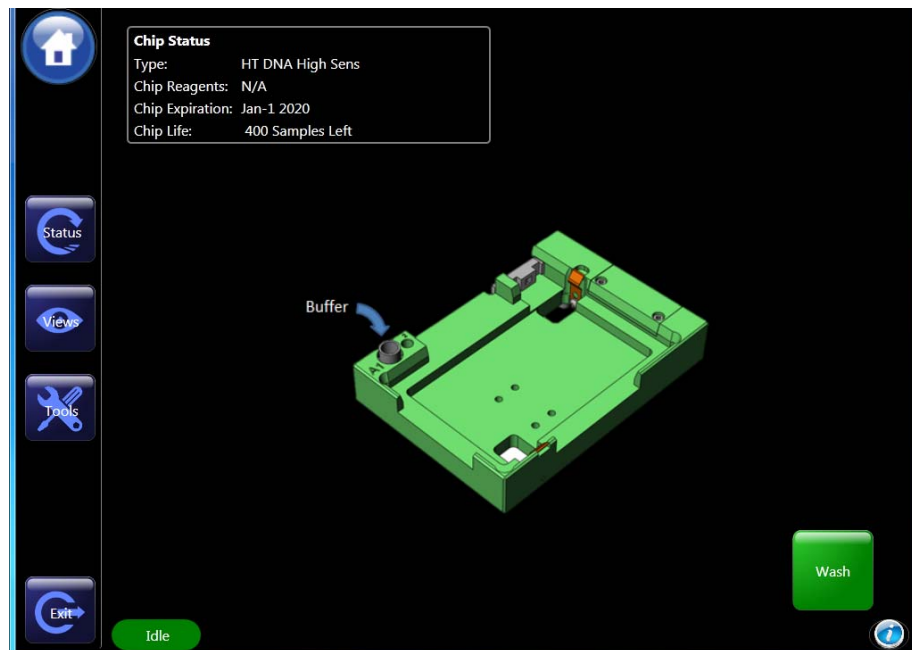

Figure 20. Wash screen.
- Touch the *Wash* button on the *Home* screen (Figure 20).